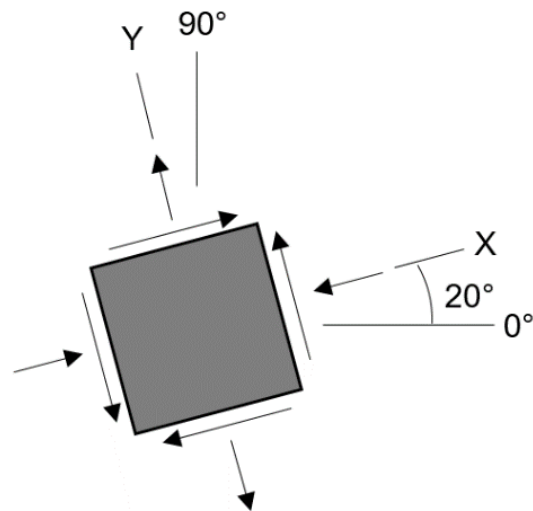

Figure 7/Rajah 7
5. Determine the equivalent state of stress on an element at the same point for the following cases with respects to the element shown in **Figure 7** using Mohr's circle. Nominal stress in x and y directions are 60 N/mm^2 and 80 N/mm^2 , respectively, while shear stress is 40 N/mm^2 .